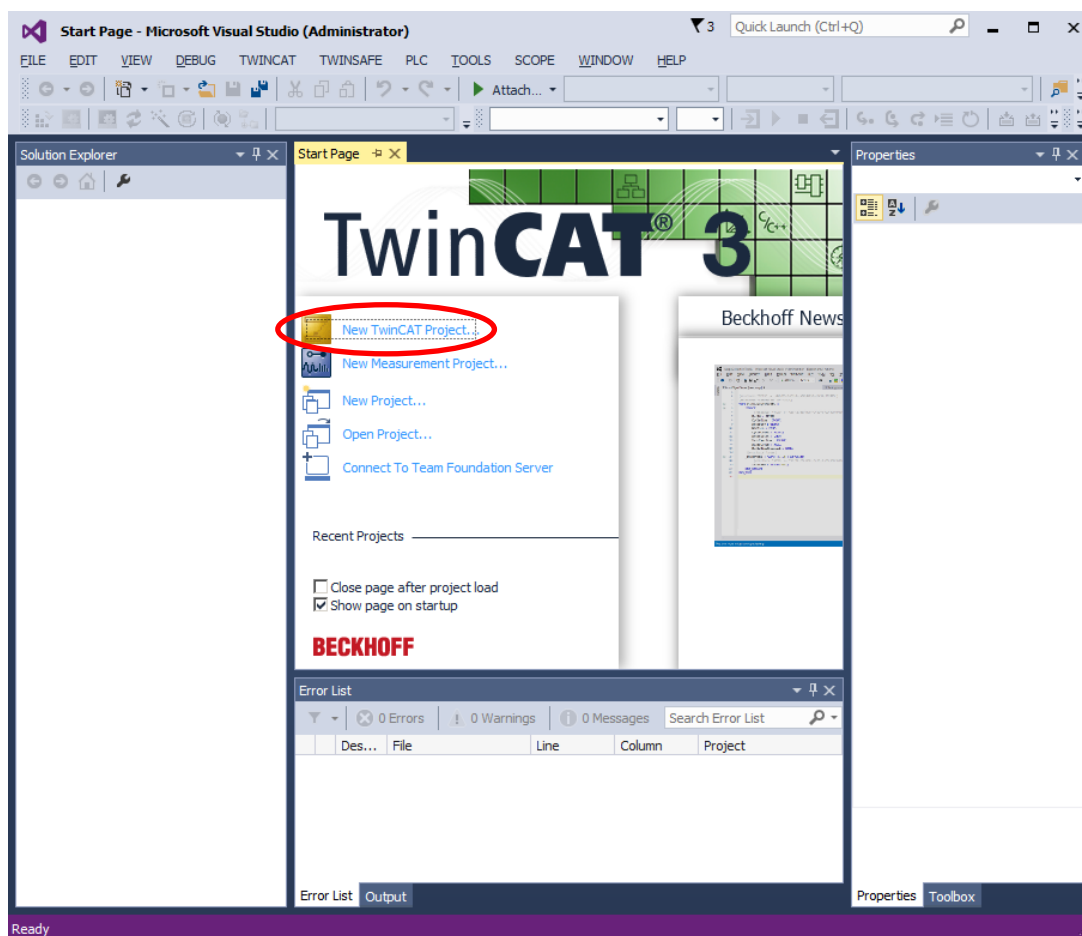

Figure 4-1 TwinCAT®3 start-up screen
- (2) After starting the program, select [New TwinCAT Project] as shown in Figure 4-1 and create a new project of type TwinCAT XAE Project. Note that the creation of the new project may take several 10 seconds and watch the progress bar in the lower right corner of the TwinCAT®3 window.